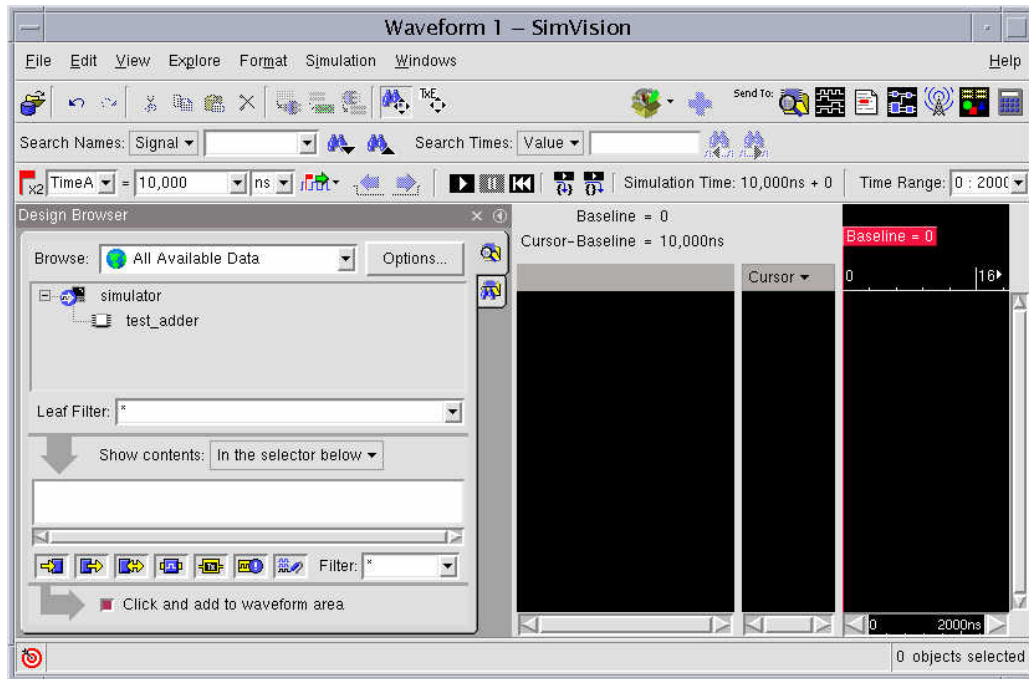

Figure 3-19 Expanding the design browser sidebar.
1. Expand the **Design Browser sidebar** by clicking on the **Expand**  button in the sidebar tab of **Waveform** window. SimVision adds the sidebar to the window, as shown in figure 3-19.